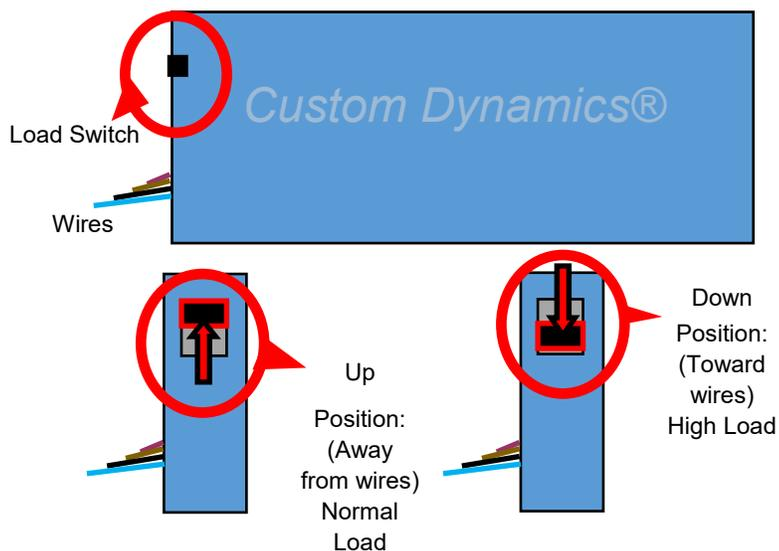

Figure 2
7. Insure the notch in the lens gasket is aligned with the notch in the lens. (Refer to Figure 2.)